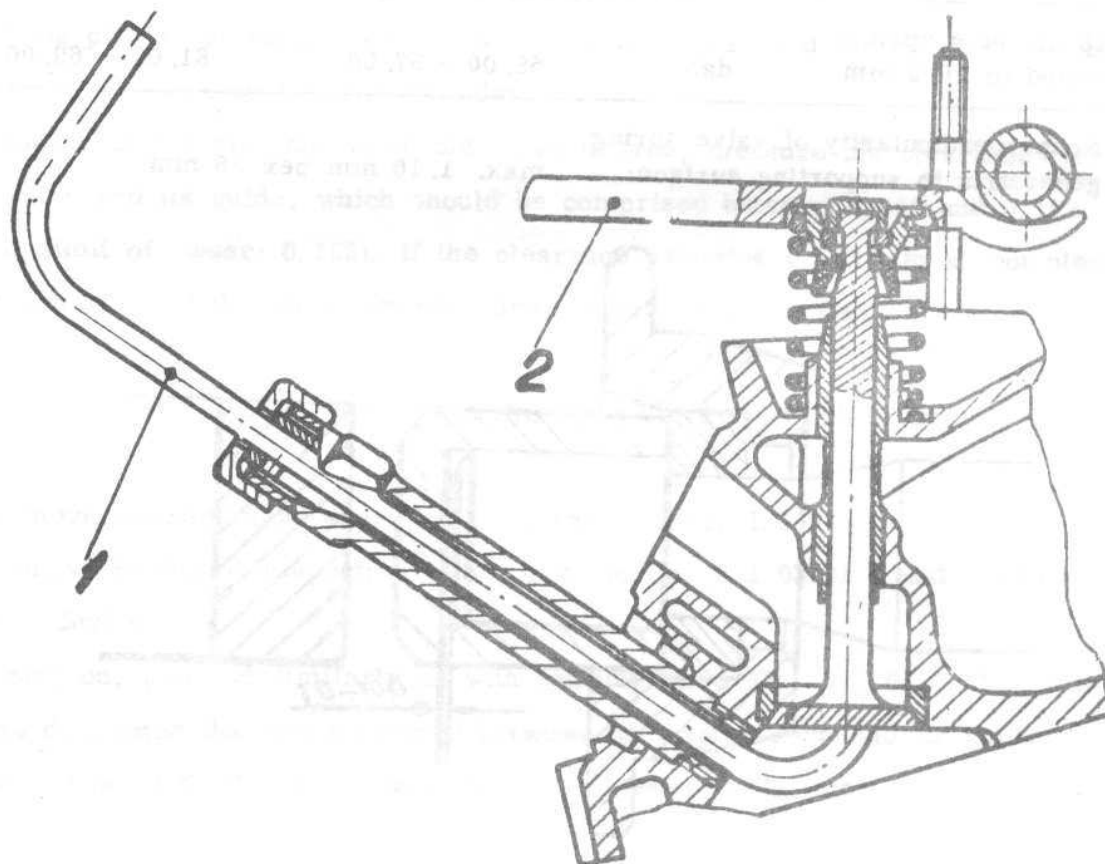

Fig. 4.47. REPLACING VALVE SPRING WITHOUT TAKING CYLINDER HEAD DOWN, BY MEANS OF D-6 D-7 DEVICES.
- Screw in the free threaded hole D 7 device, as shown in Fig. 4.47. pos. 1
- Shift aside the rocker arm and introduce under rocker arm shaft the lever of D-6 device (see Fig. 4.47, pos. 2).
- By means of D 6 device take down in succession exhaust and inlet valves (see Fig. 4.47) (see Op. 2.1.03.01.0). Press down the spring and remove the two half cotters. By releasing the lever, the valve spring extends completely and can be removed together with the valve spring seat.